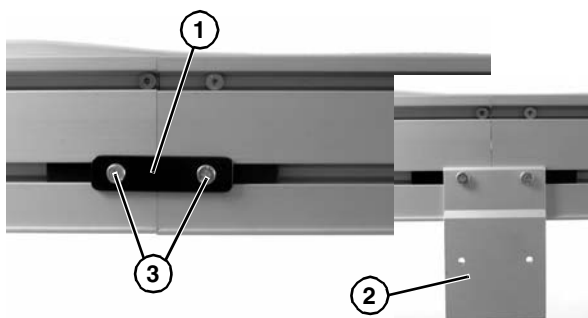

Figure 8
4. Join conveyor sections and install connector brackets (**Figure 8, item 1**) or connector/mount brackets (**Figure 8, item 2**) and screws (**Figure 8, item 3**) on both sides as indicated. Tighten screws to 60 in-lb (7 Nm).